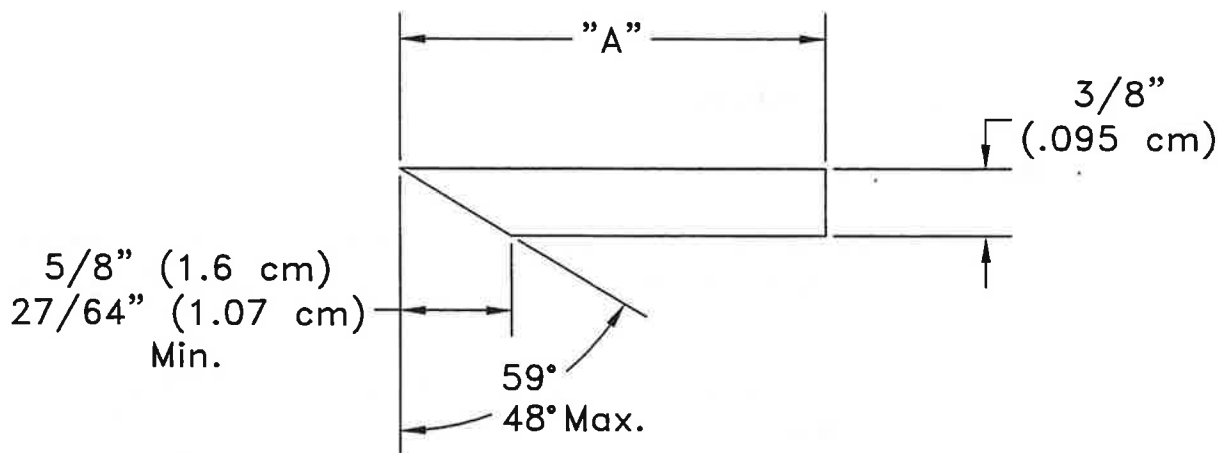

Figure 4
- f) Lay the knife on the knife shelf. Insure the knife is installed with the cutting angle edge facing down as shown in Figure 4. Install loosely the two outer, and the middle knife mounting bolts. Tighten the mounting bolts just enough to hold the knife in position while still allowing it to be moved.